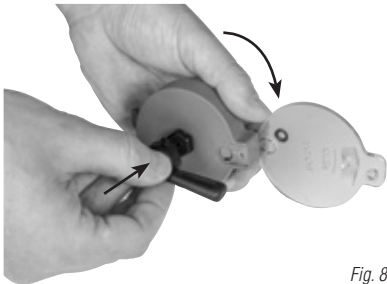

Fig. 8
2. Swing the clear cover counter-clockwise and open it. Place the winding tool onto the hexagonal hub on the back of the magazine. **(Fig. 8)**